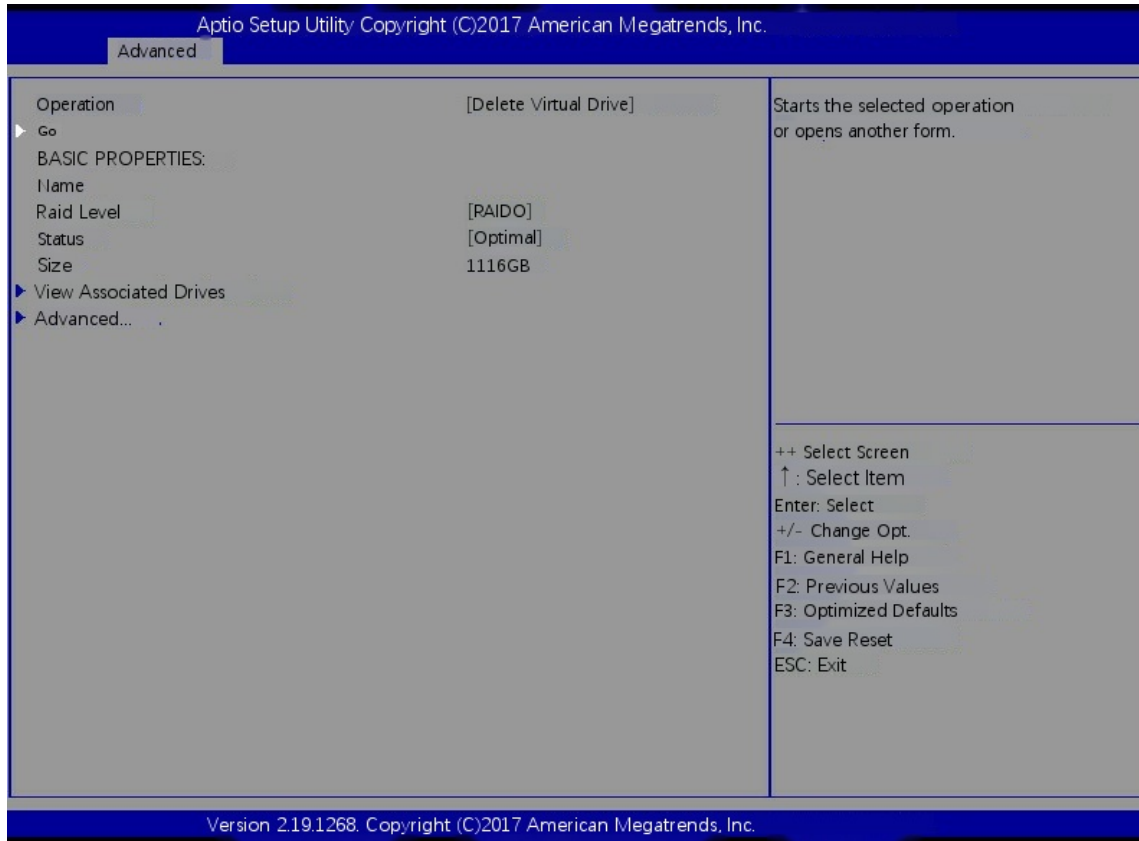

Figure 6-28
d) Enter the interface shown in Figure 6-28, select go and press enter.